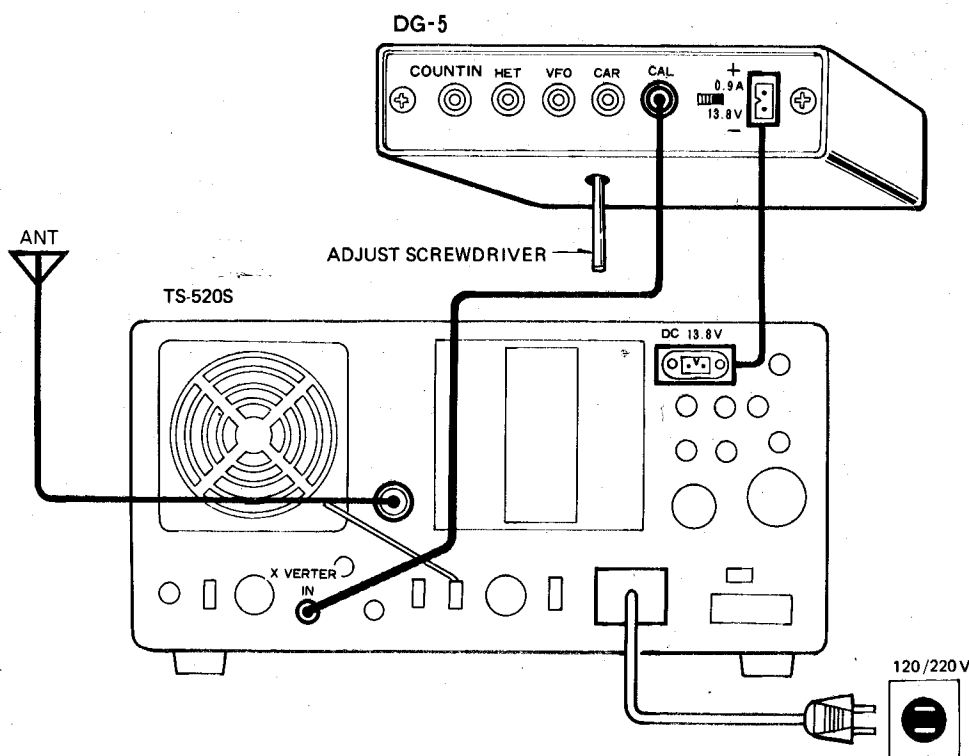

Figure 7. Reference Oscillator Calibration.
2. Connect the supplied signal cable from the DG-5 CAL connector to the TS-520S XVERTER IN connector as shown in Figure 7. The fifteenth harmonic of the DG-5
3. Adjust the trimmer located inside the bottom cover using an adjust screwdriver until the impure beat becomes clear, as shown in Figure 7. For more precise adjustment, the S meter on the TS-520S is helpful. The S meter pointer will vibrate finely on either side of the true calibration point. As the reference oscillator frequency comes close to the calibration point, the pointer deflection becomes large and slow. When it is largest and slowest, set the trimmer.